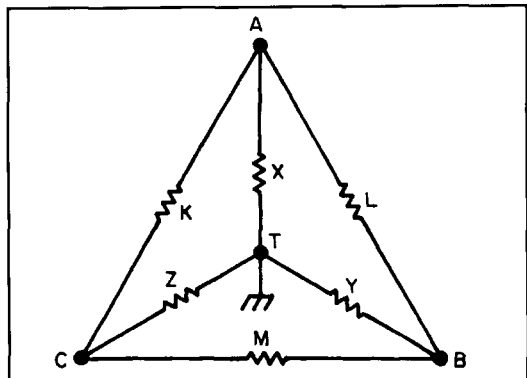

Figure 1. Making some additional measurements to find the actual resistance of each rod to true ground, T.
Call his ground rods and building ground A, B, and C. Call the resistance of each ground to true ground, in order, x, y, z. Measure (AC) resistances C to A, A to B, and B to C: call them in order, k, l, and m. Then $x = 1/2(k + l - m)$. The remaining resistances y and z are easily found. (For a visual representation, see **Figure 1**.)
The beta- or hairpin match is, as Cefalo notes, simply a special case of an L-section used to reduce the impedance at the source (the transmitter or feedline, R_o) to a lower antenna impedance. When shortened, the driven element shows a capacitive reactance (X_a) in series with the load resistance (R_a). By carefully selecting the degree of shortening, one can obtain the correct value to go with an inductive reactance (X_L) placed across the terminals (parallel to R_o) to create a matching section where $R_o > R_a$, as shown in **Figure 1**. Cefalo derives two classic formulas for calculating both of the reactances: